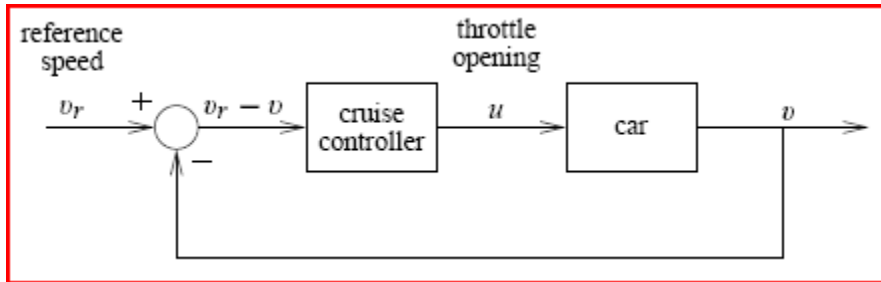

Fig. 1: Cruise Control System of an Automobile
- Figure 1 below shows a block diagram of an automobile cruise control system, which is used to maintain the speed of a vehicle automatically at a constant level. The speed v of the car depends on the throttle opening u . The throttle opening is controlled by the cruise controller in such a way that the throttle opening is *increased* if the difference $(v_r - v)$ between the reference speed v_r and the actual speed is positive, and *decreased* if the difference is negative. This feedback mechanism is meant to correct automatically any deviations of the actual vehicle speed from the desired cruise speed.